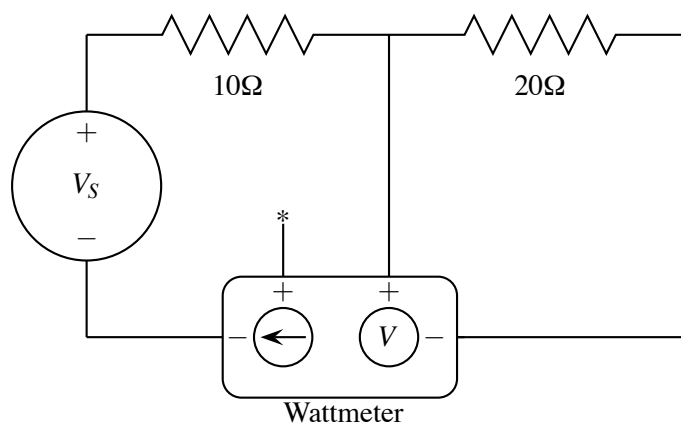

Figure 1.9: Circuit for Section 1.4.3
- The value of the current flowing through the circuit in Figure 1.9 is unknown. Construct the circuit using *ten watt resistors* and use the laboratory equipment to find it. Complete Table 1.5 and record the power and current from the watt-meter.